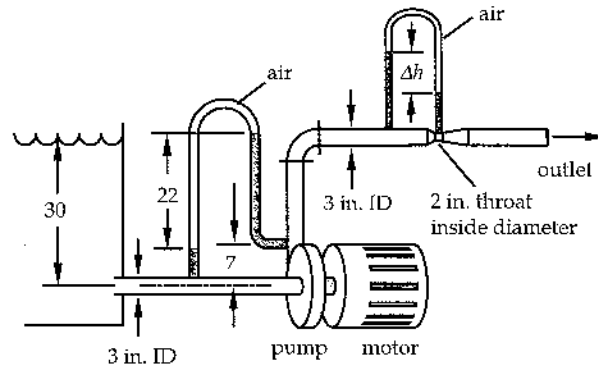

FIGURE P2.47.
47. A pump draws castor oil from a tank, as shown in Figure P2.47. A venturi meter with a throat diameter of 2 in. is located in the discharge line. For the conditions shown, calculate the expected reading on the manometer of the meter. Assume that frictional effects are negligible and that the pump delivers 0.25 HP to the liquid. If all that is available is a 6-ft tall manometer, can it be used in the configuration shown? If not, suggest an alternative way to measure pressure difference. (All measurements in inches.)